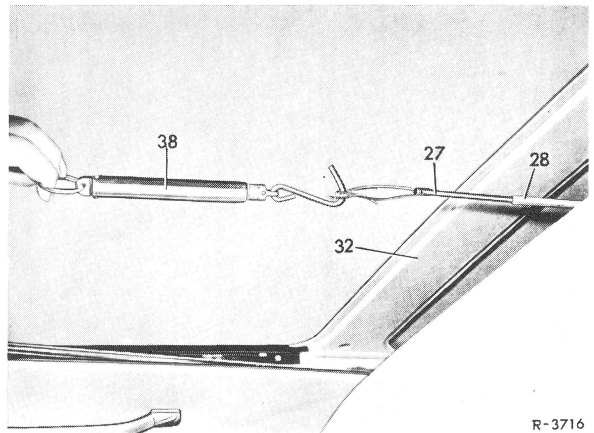

Fig. 3
Note: The teleflex cable control should slide in teleflex tube under a force of max. 3 kp. Check by means of spring scale (38) (Fig. 3).